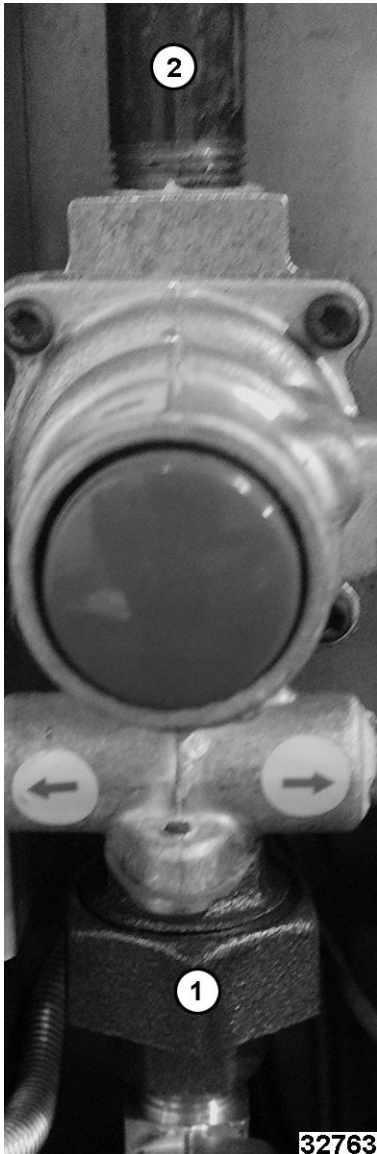

Fig. 22
- Remove union fitting (1, Fig. 22) and pipe fitting (2, Fig. 22) from top and bottom of pilot safety valve.